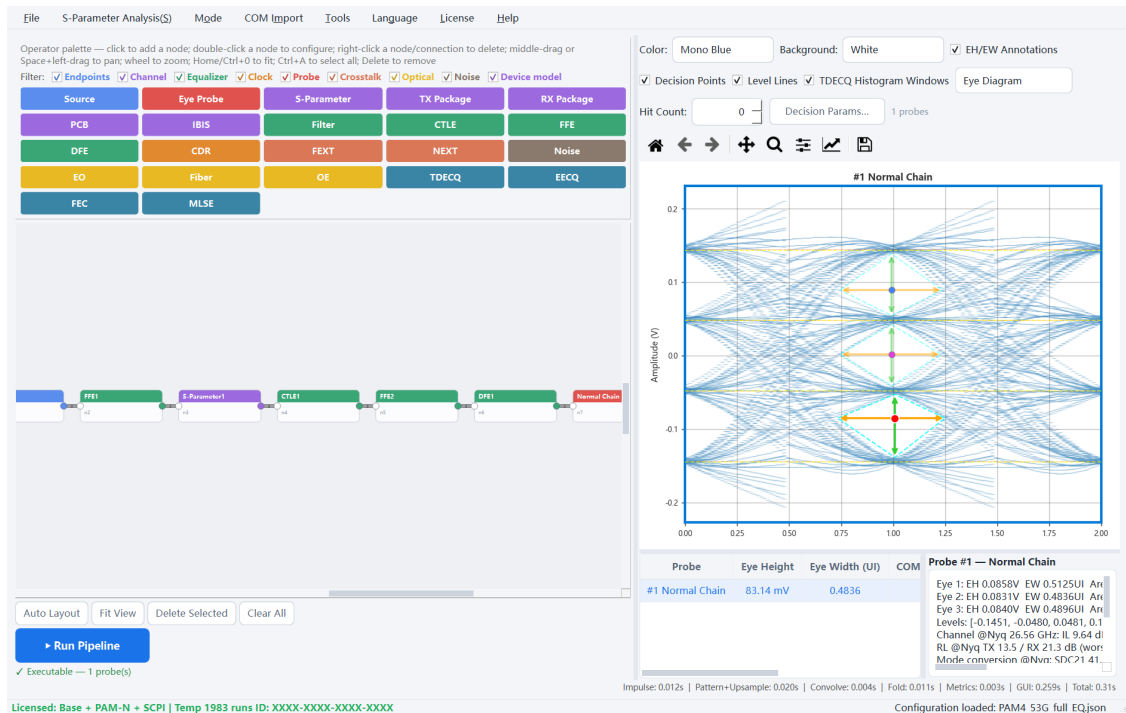

Fig. 8-1 Expert canvas: the link as a node graph
Step 2 Menu **Mode** → **Expert — Pipeline Designer**, then click Run: the link appears as a node graph, with one eye per probe (Fig. 8-1). Double-click a node to edit its parameters.